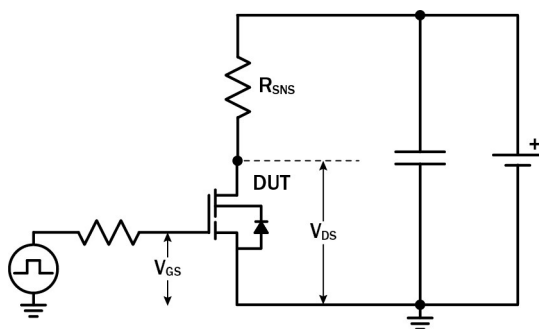

Figure 18. Dynamic $R_{DS(on)eff}$ Test Circuit
- f. Dynamic R_{DS(on)} value; see Figures 18 and 19 for conditions